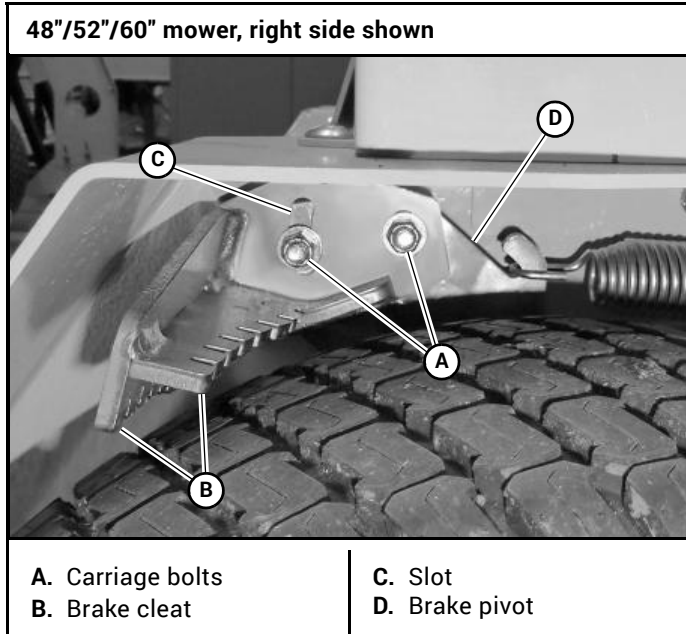
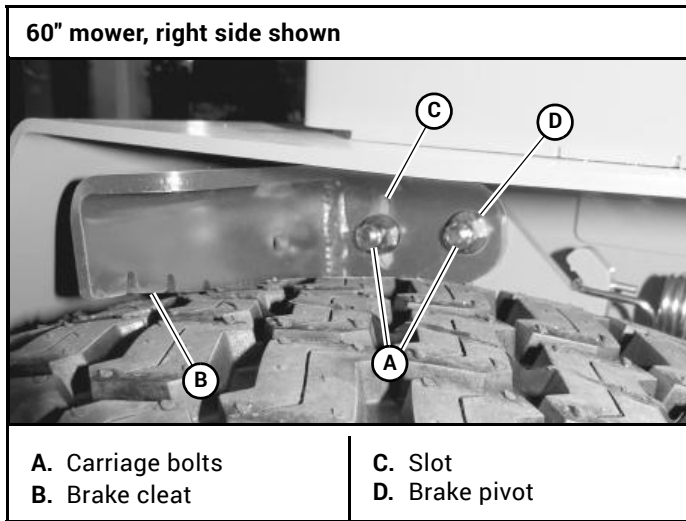

Figure 4-16
Figure 4-17
3. Adjust the right brake cleat so that the gap between it and the tire is .25". Repeat for the left side. Figure 4-16 & Figure 4-17